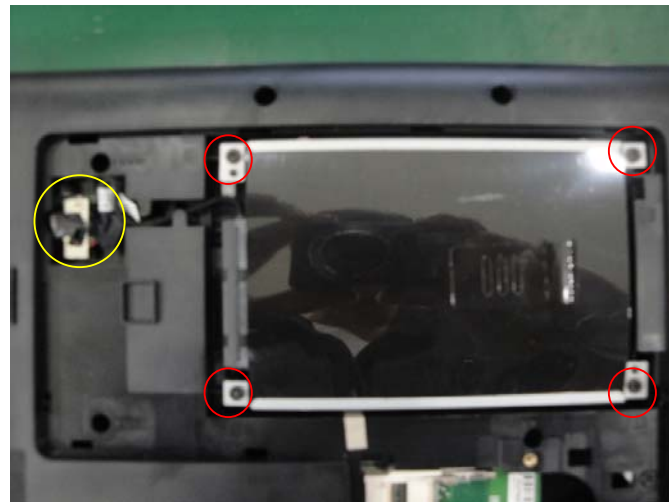

Fig.2
3. Loosen four screws and pull out HDD cable from MB. (Fig.2)